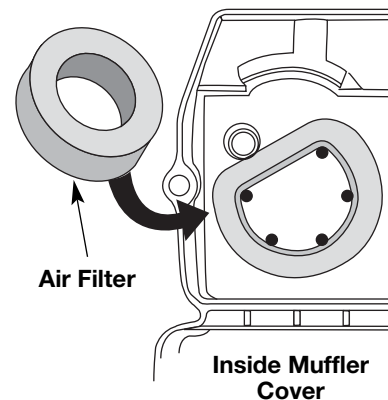

Fig. 24
- Turn cover over and look inside to locate the air filter. Remove the air filter from inside the air filter/muffler cover (Fig. 24).
6. Replace the air filter inside the air filter/muffler cover (Fig. 24).